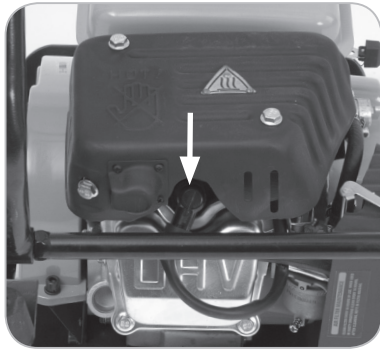

Fig. 13
- Using a spark plug socket (supplied) remove the spark plug. (**Fig. 13**)